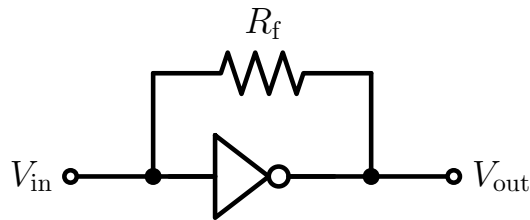

Figure 11: Self-biased inverter amplifier with feedback resistor  $R_f$ .
5. Open `amp.sch` in Xschem and add a resistor between the `vin` and `vout` nets, as shown in Figure 11. For a first schematic-level study, the generic `res.sym` device is fine. Start with  $R_f = 1\text{ M}$ .